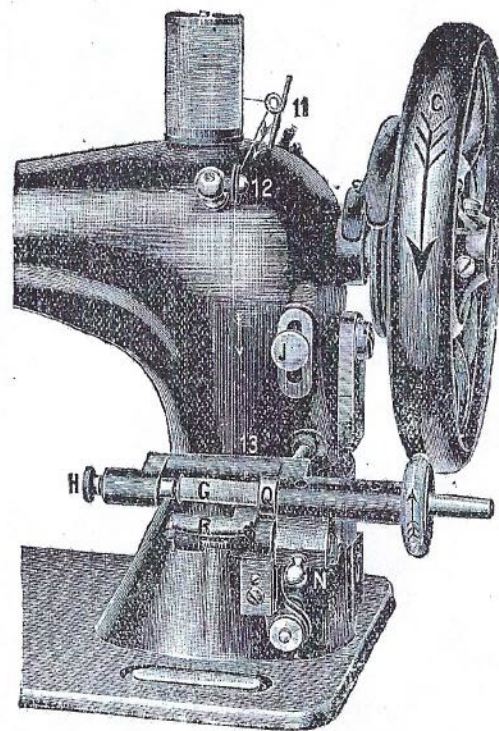

FIG. 5.
pushing in the steel connector, as shown on page 1. Place the reel on the spindle nearest the fly-wheel, pass the cotton, as it comes from the reel, through the eyelet (11) Fig. 5, between the two tension-discs (12), then under the bar (13), and then into the hole at the end of the bobbin from the inside; now press down the gate (r), and insert the bobbin in the winder so that the hole at the end fits over the pin (q); draw out the piston (h) and place the other end of the bobbin in position; then push up firmly the knob on winder at point (n), and that will connect the winder with the fly-wheel, and proceed to wind the bobbin by turning the handle of the machine. If needed, the bobbin can be wound whilst the machine is being worked, as it requires no attention, and disconnects itself when full.
At every stitch the work is moved forward by the FEED. The length of the stitch may be regulated, as required, by means of the thumb-screw (j) Fig. 5, see page 3, near the bobbin-winder. To alter the stitch, loosen the thumb-screw by turning it to the left once or twice (that is, towards the needle-arm), and if a larger stitch is required, push downwards; if smaller, push upwards. A few trials will shew the result immediately. As soon as the stitch is adjusted to the required size, secure the screw firmly by turning it round to the right.